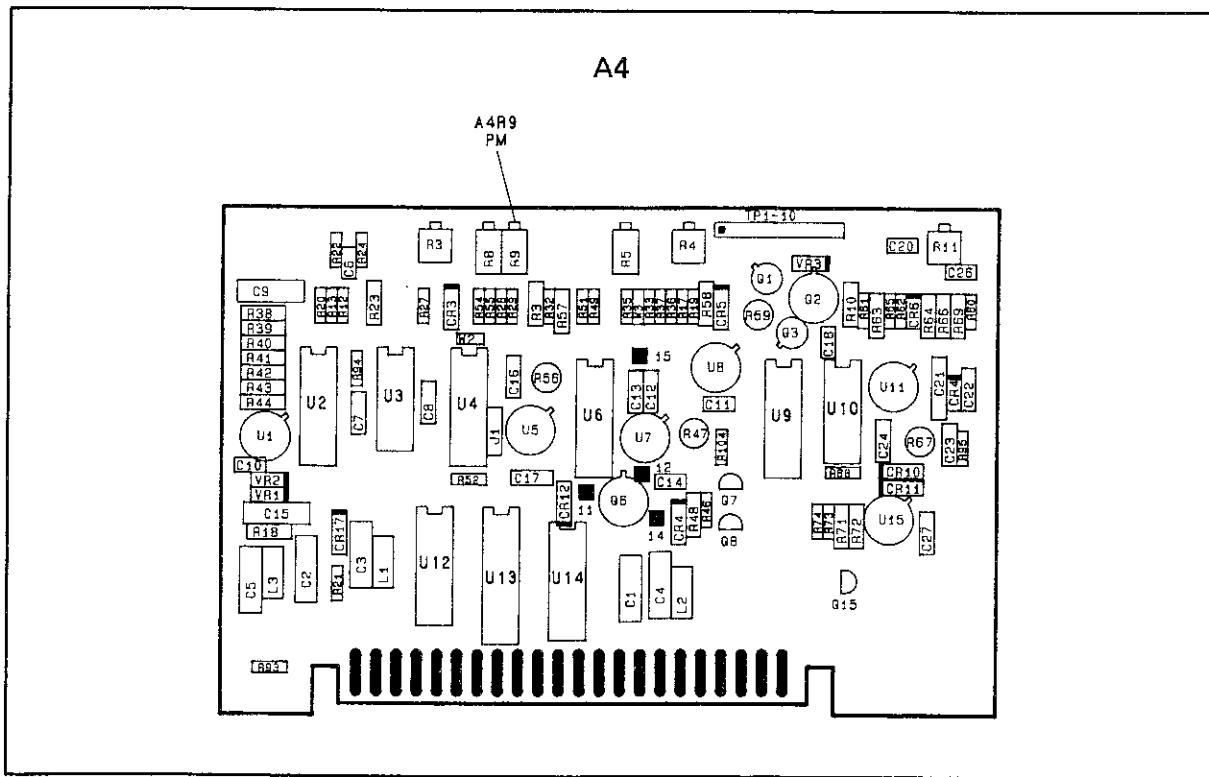

Figure 5-21. Power Meter Leveling Adjustment Location
3. Press 8350A/B [POWER LEVEL] [STEP SIZE] [1] [dB] and use [▲] to increase the HP 83572A/B POWER LEVEL by exactly 5.0 dB. Adjust A4R9 "PM" (Figure 5-21) for a power meter reading of -10. The HP 83572A/B front panel power indication should read +0 dBm.